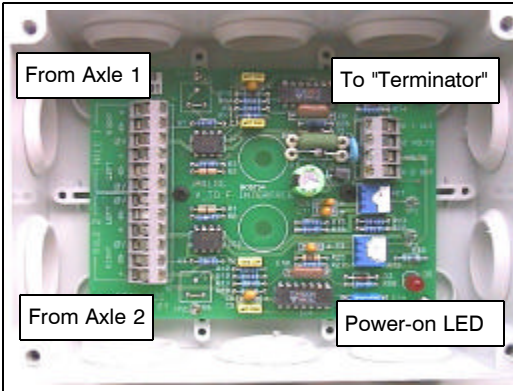
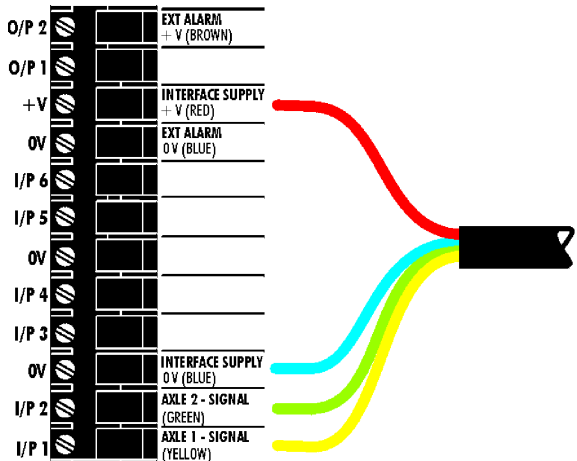

Figure 7 - V-F Interface S/AC/188-1-020
Figure 8
- (i) Connect each sensor cable onto the terminal block, following the screen printed ID adjacent to the connector (fig. 7).
- (ii) Connect the 4-core cable to the 4-way connector block (fig. 7) and route this cable to the "Terminator" junction box. Connect the 4-core cable to the connectors on the Terminator, as shown on the junction box lid (fig. 8).